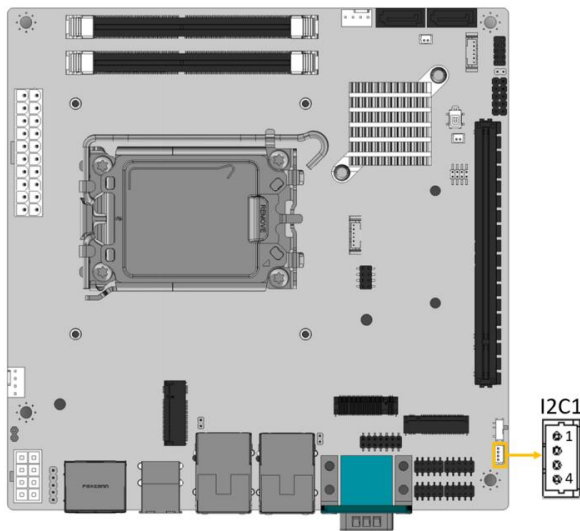

Figure 3-10: I²C/SMBus Connector Location
- CN Location:** See **Figure 3-10**